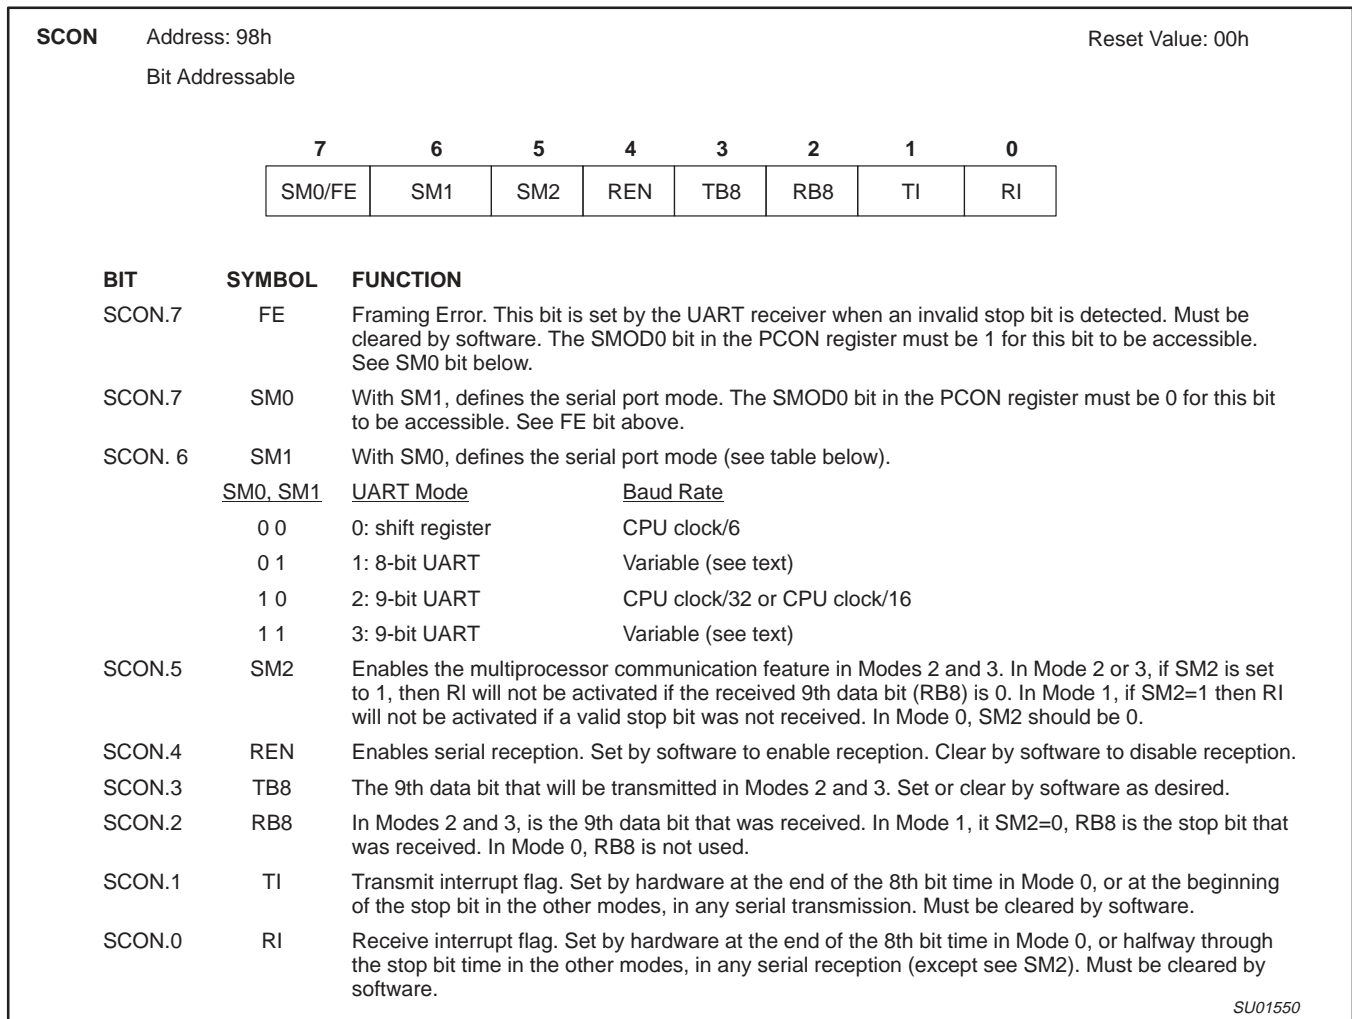

Figure 31. Serial Port Control Register (SCON)
1. See Figure 31 for additional information.
The serial port control and status register is the Special Function Register SCON, shown in Figure 31. This register contains not only the mode selection bits, but also the 9th data bit for transmit and receive (TB8 and RB8), and the serial port interrupt bits (TI and RI).